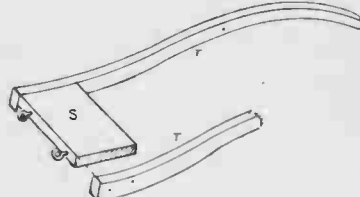

Fig. 5—Shafts and joining piece
Now proceed with the wheels. Two of each of those on the pattern sheet will be wanted, and they may be cut in duplicate in a similar manner to the two sides of the cab. To make a really perfect model, the spokes of the wheels should each receive individual attention, and be shaped almost circular where they meet the outer rims of the wheels (see Fig. 5). Next cut eight washers as (U) on the pattern sheet, and glue them in pairs one each side of the wheel to form a substantial hub.